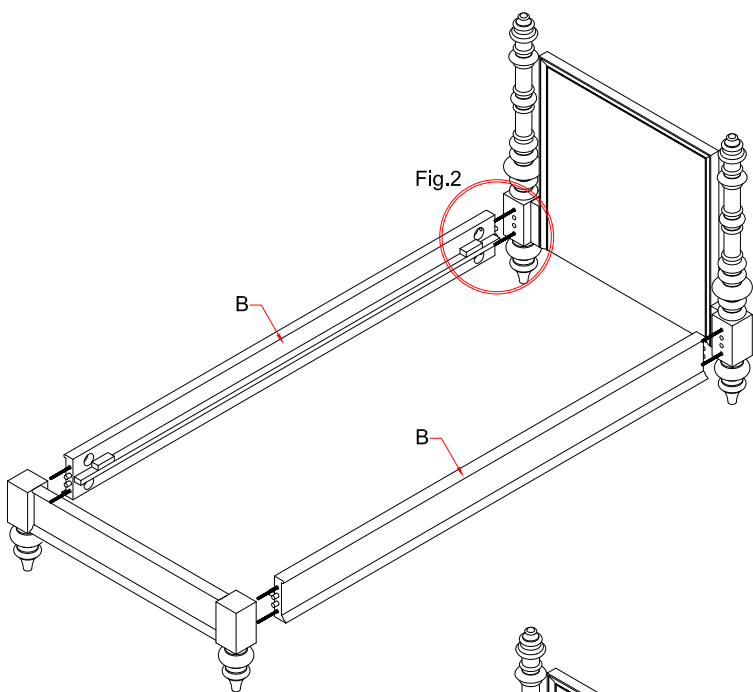

FIGURE 2
3. Place the headboard (A) upright in the position you wish the bed to be in when fully assembled. Secure the threaded rod (1) to the fixed nut in the headboard (A) by simply turning it manually. Raise the side rail (B) up and place the rod (1) to align with the bore holes on the end of the side rails (B). Put the side rails (B) up against the headboard (A) so the threaded rods go through the bore holes. Insert curved washer (2) and lock washer (3), place hex nuts (4) on threaded rod (1) and tighten hex nuts (4) with wrench (5). See FIGURE 2
4. Repeat the above procedure with the other side rail (B) to attach it to the headboard (A), and then repeat to connect side rails (B) to the footboard (C).